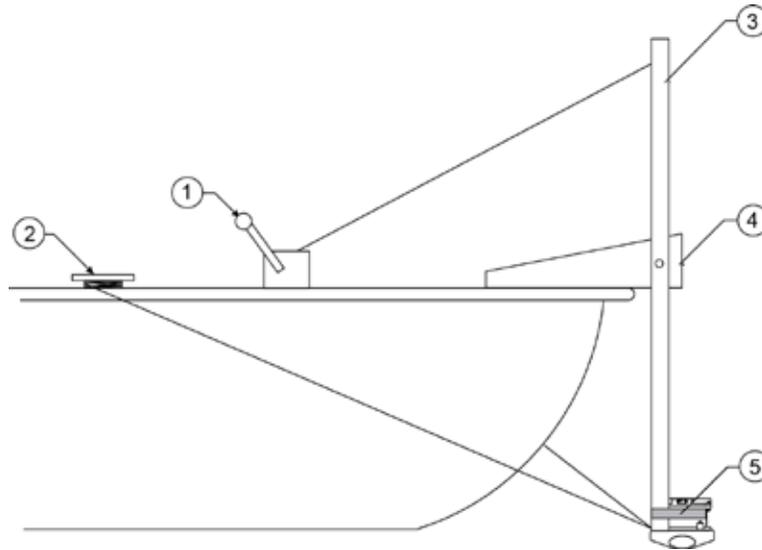

Figure 31. Example of an Over the Side Mount
- Mount to the platform (see Figure 31).